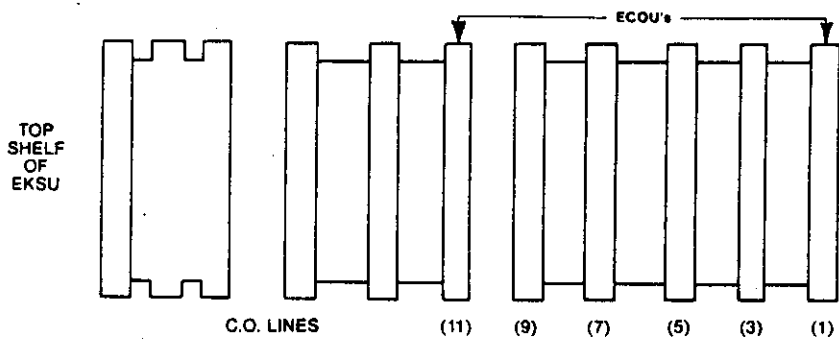

FIGURE 2A—LOCATION OF ECOU BACKPLANE CONNECTOR PINS—EKSU
2.2.1 From the C.O. lines connected to the EKSU, one or two of the following C.O. lines: (1), (3), (5), (7), (9), or (11) may be selected for connection to off-premise telephones. See **Figure 2A**.
2.3 Locate the ECOU backplane connector pins for the C.O. lines selected for connection to the off-premise telephones. See **Figures 2A and 2B**.